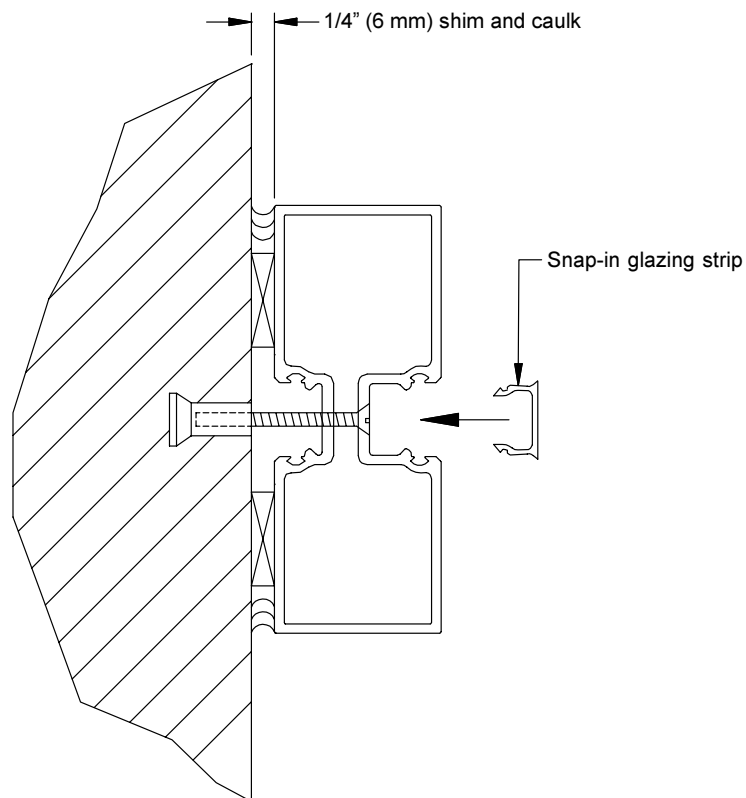

Figure 7. Anchoring the Jamb Tube
6. Use appropriate fasteners (four per jamb) to anchor through the glazing recess of the jamb tube to the wall or adjacent framing. Check the jamb tubes with a level to be sure that the tubes have not been pulled in by the anchors. Finally, install the snap-in glazing strips in the jamb tubes (**Figure 7**).